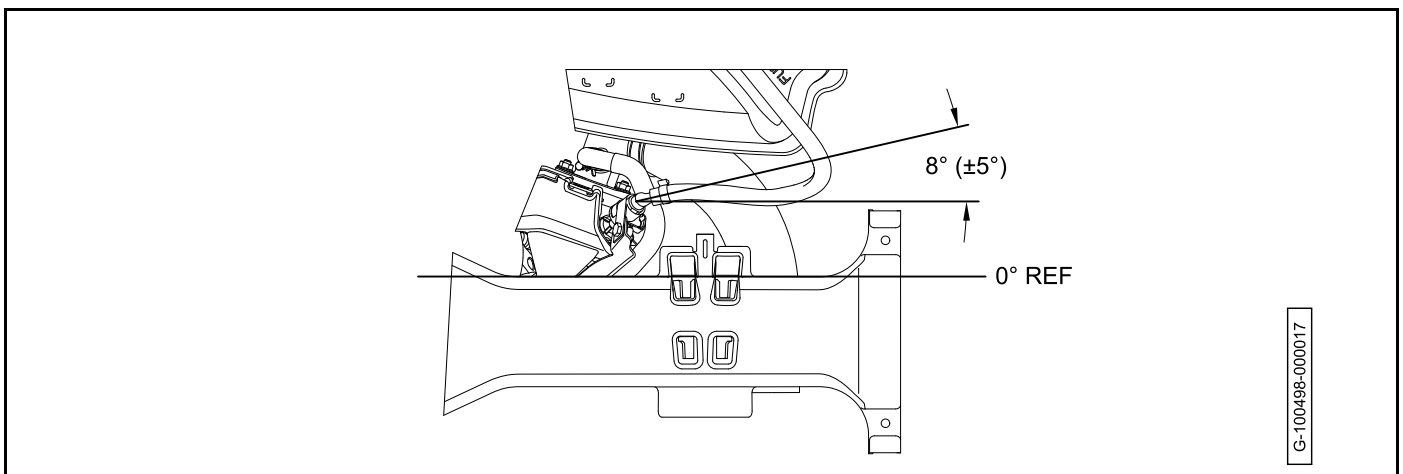

Figure 22-15
3. Push in the locking clip (2) until it is fully seated.
4. Make sure that the fuel line is $8^\circ (\pm 5^\circ)$ toward the fuel tank from the bucket brace (**Figure 22-15**).